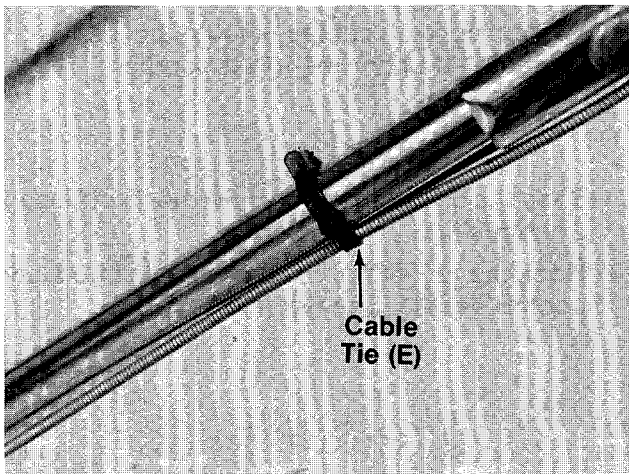

FIGURE 8.
- ← 14. Secure throttle control and brake cables to upper and lower handles with cable ties (E). See figure 8.